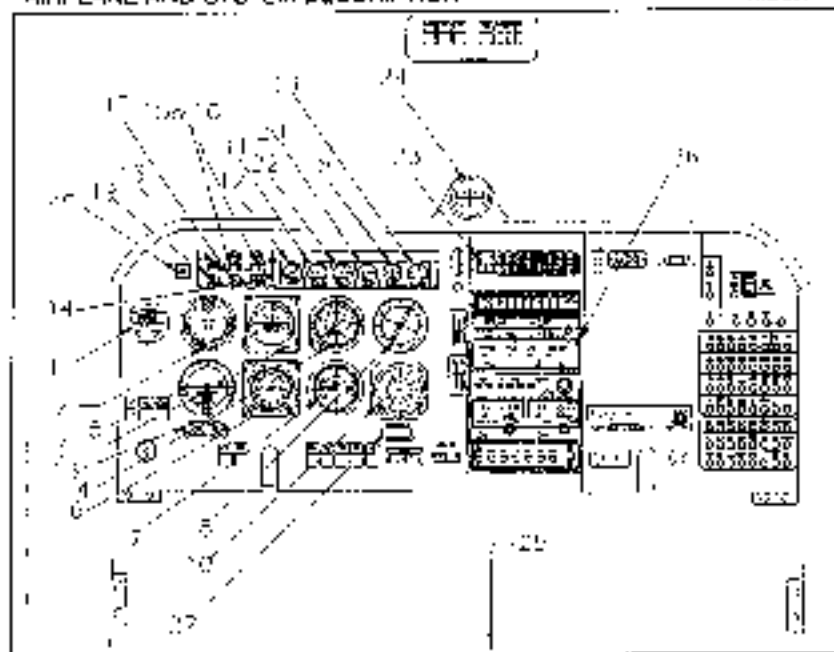

FIGURE 7-1A. FLIGHT PANEL (29-0170 thru 29-0182, 29-0184 thru 29-0198)
1. **CLOCK** (SN 29-0170 thru 29-0199) (Refer to Figure 7-1A)